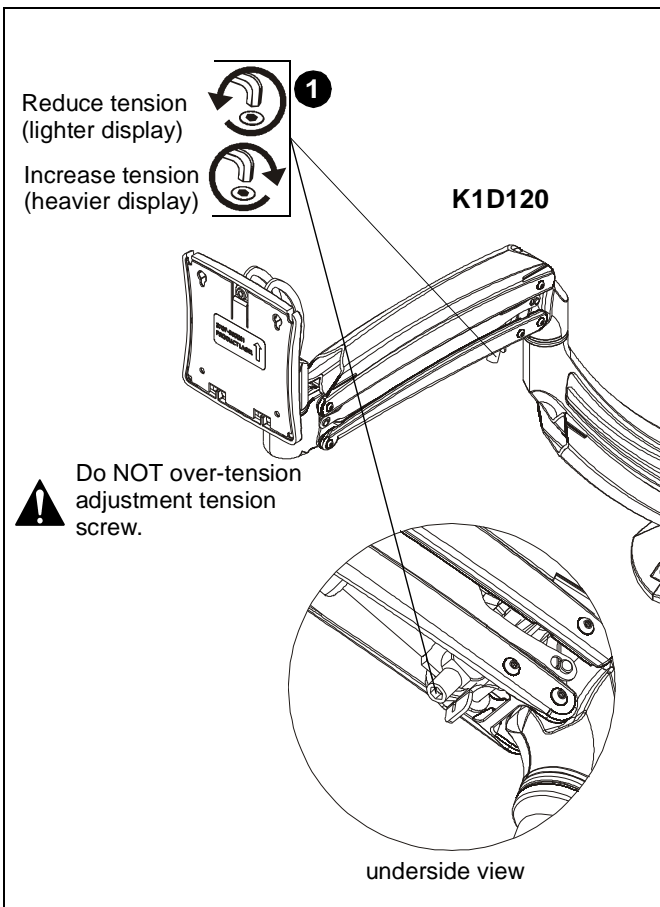

Figure 16
- Use 3/16" hex key (K) to adjust lift arm tension adjustment screw. (See Figure 16)